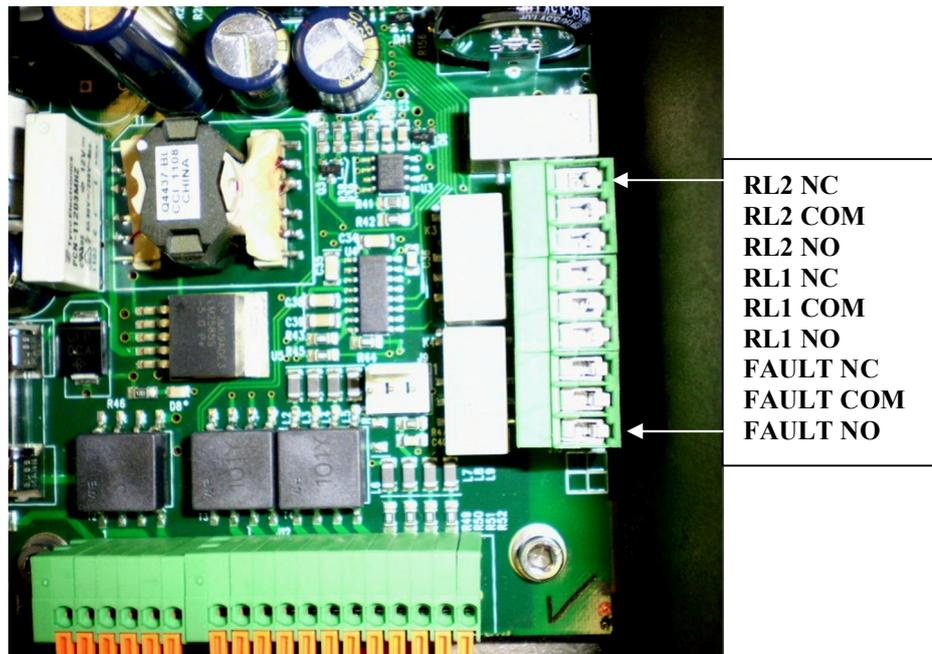

Figure 1-5 Relay connections. Relay contacts are rated 2A, 250V AC.
These connections are along the right hand side of the main circuit board at the gland end (see Figure 1-5). They are a two-part connector with pins in the circuit board and a
3. Connect the relay signal cable to a multimeter, set to read ohms, or continuity. Connect between the connections **RL1 NO** and **RL1 COM**. See Figure 1-5, Section 1.2.4. Switch on the power source.